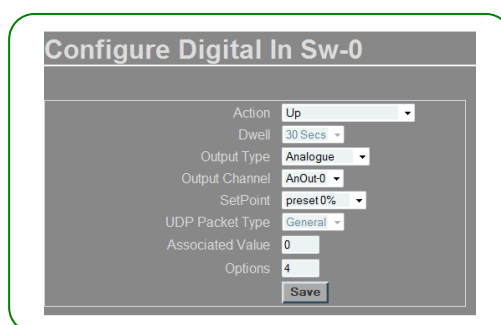

Figure 5: Rotary Encoder Settings
4. As before this will open the configuration page for digital input 0. To correctly operate with a rotary encoder the value in the options filed has to be changed to 4. Also see figure 5 for the correct settings.